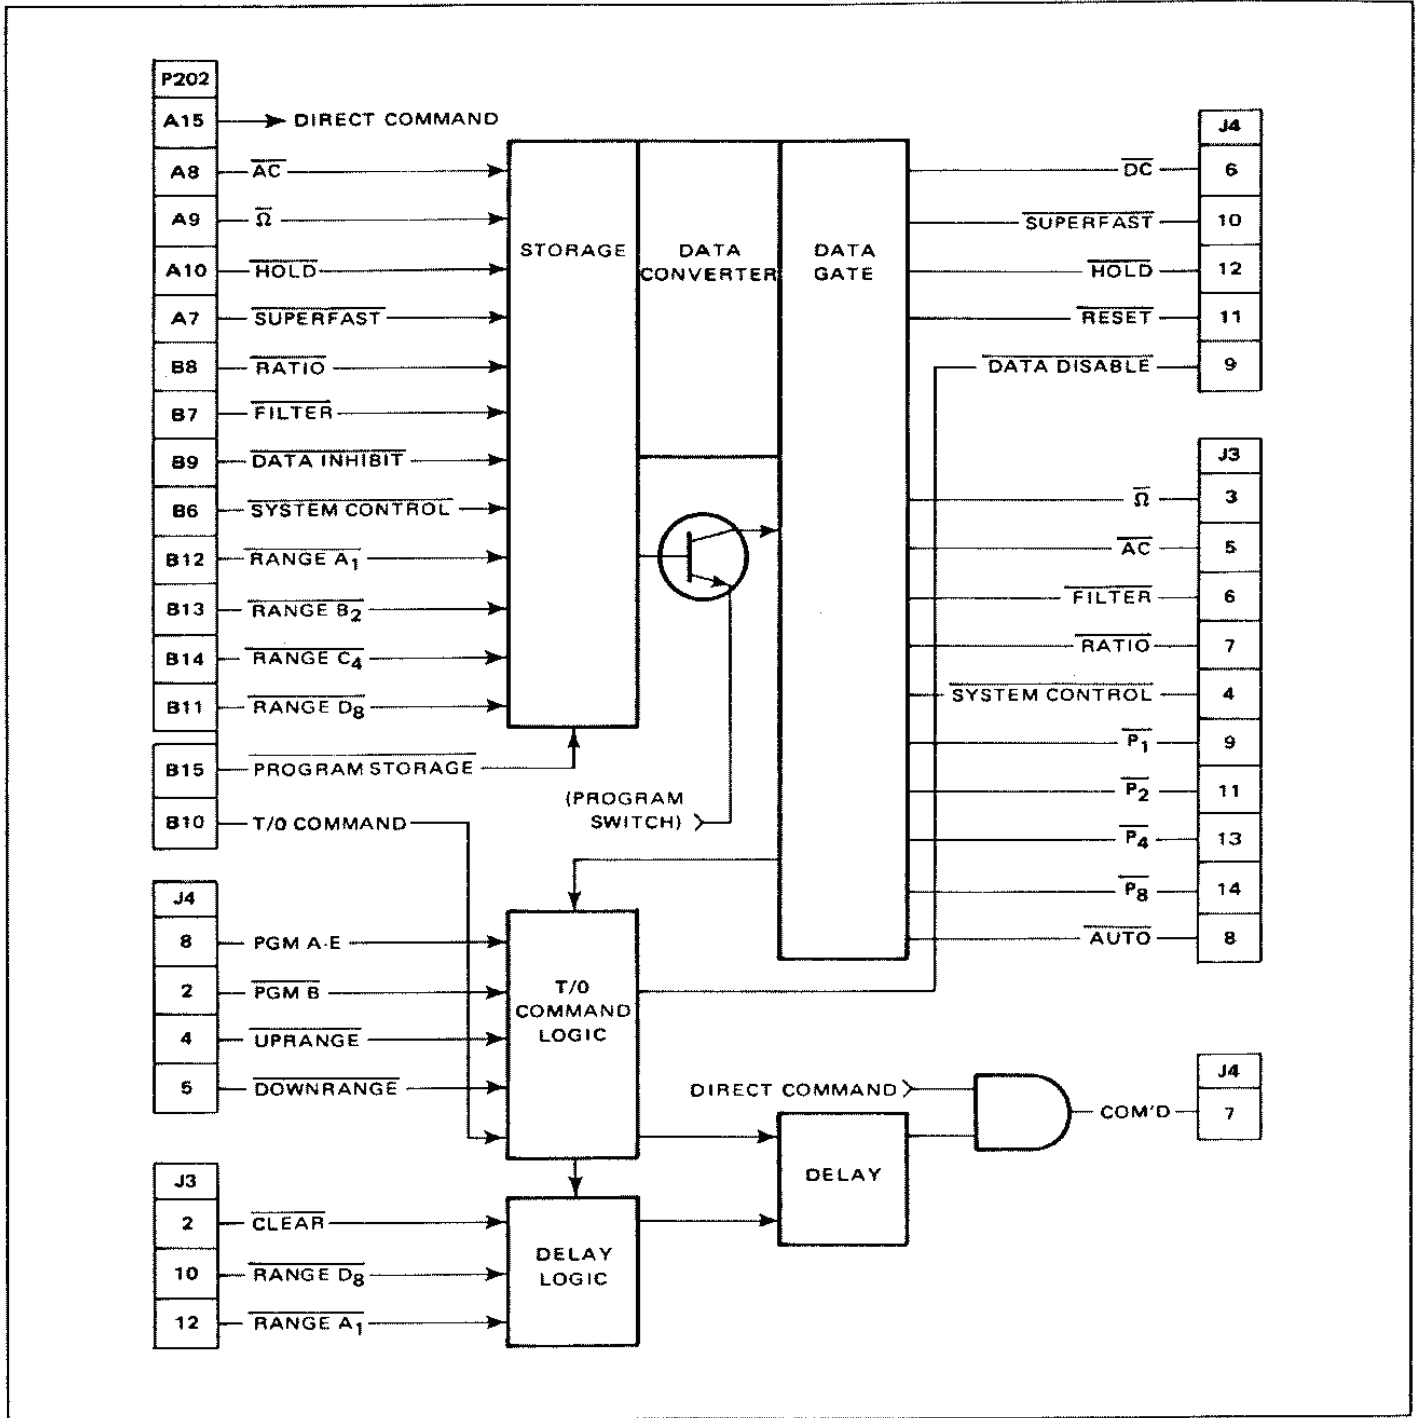

Figure 4.17 - Program Block Diagram
4.82 The circuitry, shown simplified in figure 4.17, consists of the program logic, data gate, and the command/timeout circuitry. The program logic converts the control line data generated at P202 to correspond to the instrument control lines. The data gate passes or rejects the converted data; the gate is enabled when the program switch is operated and system control is selected on P202. A series of inputs with their outputs are shown in table 4.7. The timeout circuitry generates the necessary timeouts for delayed remote programming. The timeout periods are covered under paragraph 2.99.